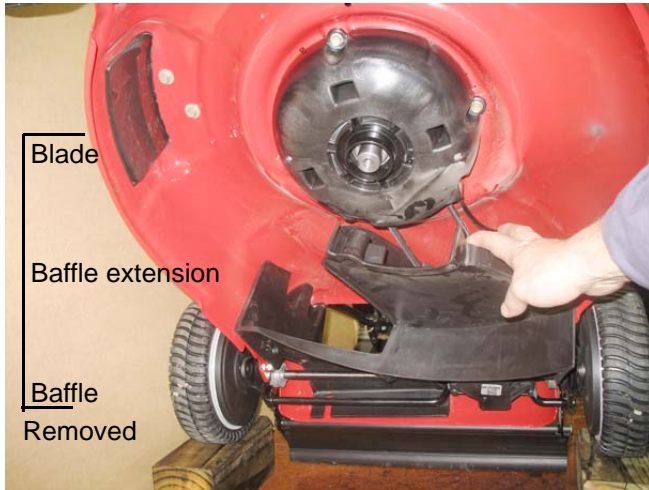

Figure 5.15
- 1a. Remove the baffle as described in Chapter 4: Drive belt and baffles. See Figure 5.15.